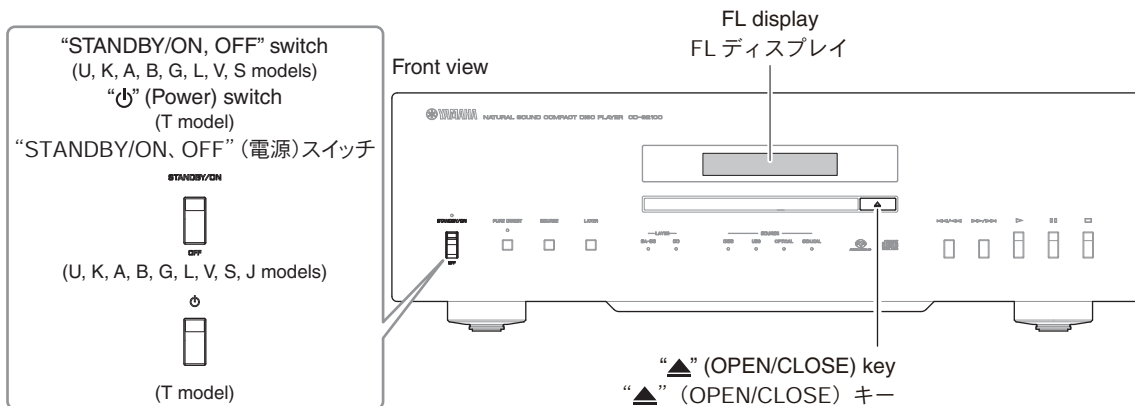

Fig. 1
2. Set the “STANDBY/ON, OFF” (U, K, A, B, G, L, V, S models) / “⏻” (Power) (T model) switch to the “ON” position. (Fig. 1)
3. Press the “▲” (OPEN/CLOSE) key to open the tray. (Fig. 1)
2. “STANDBY/ON, OFF” (電源) スイッチを “ON” にします。 (Fig. 1)
3. “▲” (OPEN/CLOSE) キーを押し、トレイを開きます。 (Fig. 1)